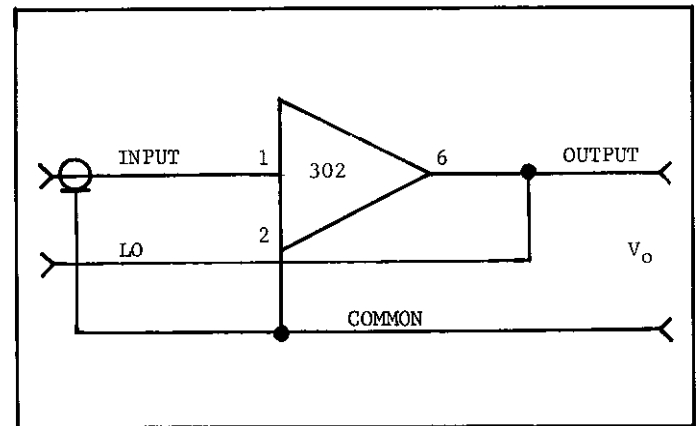

FIGURE 11. Unity Gain Amplifier.
f. Unity Gain Isolation Amplifier. In this configuration, the input voltage signal is applied between the Input (Pin 1) and the Output (Pin 6). The unity gain voltage output is developed between the Output (Pin 6) and common (Pin 2). Since the common terminal is isolated from the input LO terminal, a floating power supply and monitoring device must be used. (The Common terminal (Pin 2) is used for power supply return). See Figure 11.